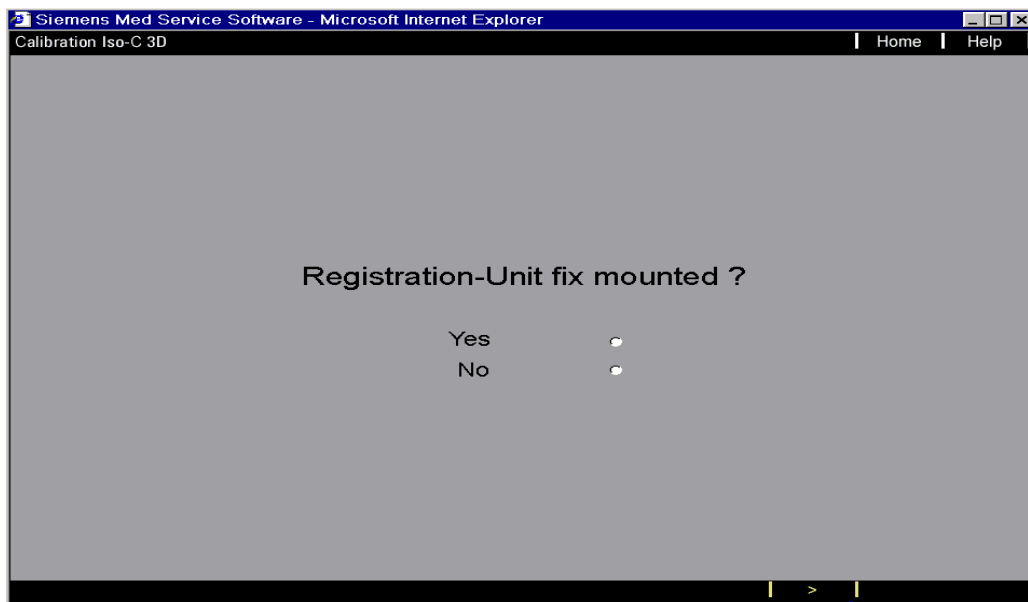

Fig. 15
- According to Fig. 15 approach in three planes in each case a marker cone with a pointer up into the tip of the marker cone.